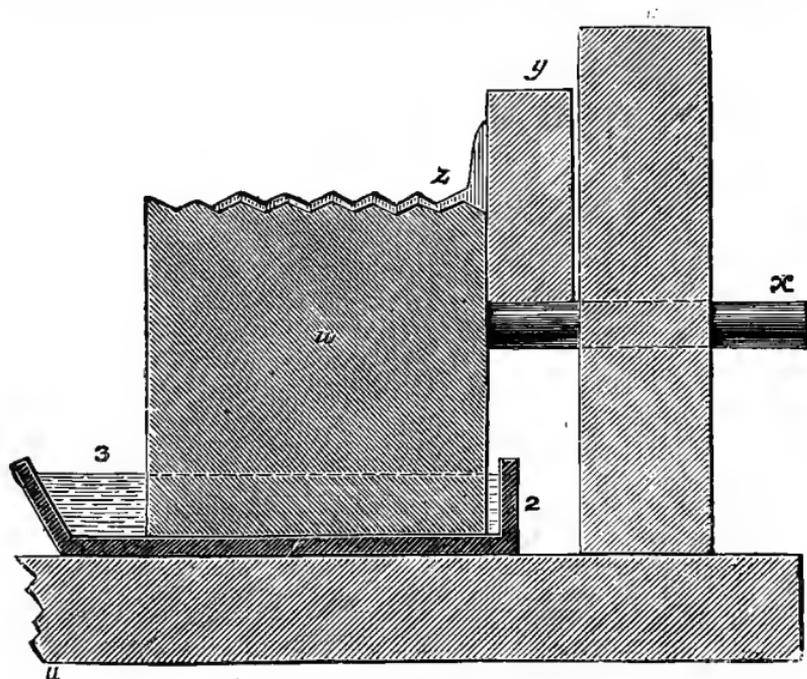

FIG. 38. THE CHESHIRE GUIDE MAKER.
that the centre of it lies along the edge of the cast. Pure wax having been melted, as we have often explained, in a gluepot, it is applied by a painter's common brush to the top of the cast, and the exposed part of the bar. The wet plaster receives a coating, which immediately sets, but does not adhere, while the wax incorporates itself with the wood, which when raised, carries a guide most firmly attached and as straight as an arrow. The little apparatus (Fig. 38), which was used at the Crystal Palace Show, and to which a silver medal was awarded, will enable us to work more agreeably and expeditiously. To about a square foot of inch stuff (*u, v*), an upright (*t*) $2\frac{1}{2}$ in. high, is fixed: holes are pierced at various heights through this to receive two iron pins, one of which is seen at *x*. A shallow tin tray (1, 2) holding water (3) has the plaster cast (*u*) stood in it, when capillary attraction carries up the exact amount of water necessary to prevent adhesion of the wax. The pins having been adjusted, so as to bring the centre of the bar (*y*), opposite to the top of the mould, the latter
plan, which we did not reach till many partial failures. Select a straight, old, and large comb, containing no drone cells, free from honey, and, if possible, from pollen also. These conditions can be nearly, if not quite absolutely reached by the owner of three or four movable comb hives, if he select a card of comb in the early spring. With an old sharp dinner knife dipped in hot soapy water, pare away the cell walls from the more perfect side of the comb, until it is found that the chrysalis cases begin to tear, and make the work untidy; now pour some melted tallow or dripping into the cells, and allow it to set; bend the end of the knife, so as to make it like that used for uncapping (see "Extractor"), keep its edge keen by rubbing upon a hone, and now continue the operation of cutting away the cell walls, when it will be found that the tallow will hold the old pupæ skins against the knife, and all will proceed with perfect smoothness; cut carefully as you approach the midrib; your warning will be the apparent thickening of the partition between the cells. The work so far complete, turn the comb over upon a *flat* board, and remove as much of the partitioning on the other side as you can without risk. Place the comb before the fire, not near enough to at all endanger its melting, but merely to soften it, so that it may sink down upon the face of the board, and give us bye-and-bye, a perfectly true and level mould. Pour thin plaster of Paris over the back, so as to fill every cell as completely as possible. The plaster having set, our work, now flat and stiff, may be lifted, when we have to remove the tallow filling the bases of the cells. Place the comb at an angle in a sink, and pour over it, in a thin stream, hot water (about 130°; wax melts at 150°) allowing it to fall two or three feet. The heat will melt the tallow, while the gentle blow will drive it out, at the same time leaving our mould so far finished. The cast is to be taken from it, as from the metal plate previously referred to, not omitting the dabbing with paraffin. We may be unable (we have been) to obtain a comb large enough to make a midrib for a whole frame; if so, make two casts,* each about half-an-inch thick, rub or saw those edges which you intend fitting together, so as to have a good join. Turn them on their faces, bring close, and then make up the plaster at the back over both to one and a half inches. This mould must then be cut to size, and used after careful soaking, like the cast *u* (Fig. 38), gently dabbing it with a wet sponge after each sheet made. The impression will be much more deeply cut than that obtained from the metal die; and, in addition, making the mould from *old* comb will so thicken the portion of cell-wall given, as to supply material for its elongation, while the size will be necessarily exact, which is unfortunately not the case with the German plates, these giving fifteen and a half cells in three linear inches, while a large number of combs we have measured, give an average of fourteen and a half cells only in the